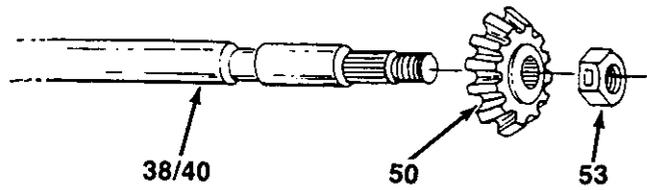

FIGURE 23.
21. Remove hex lock nuts on end of each axle to remove the miter (splined) gear. See figure 23.